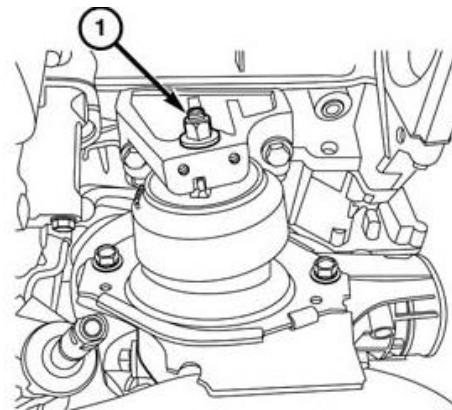

Figure 20 – Engine Mount Nut
46. Remove the left engine mount nut (1) (Figure 20).